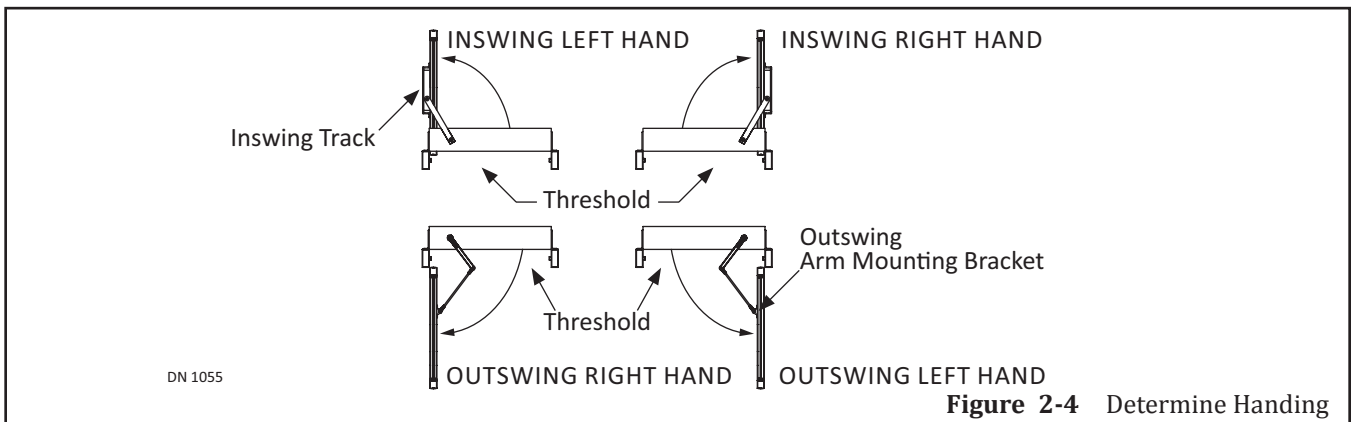

Figure 2-4 Determine Handing
- ▶ To determine Handing from the direction the Swing Arm opens. Please see Figure 2-4.